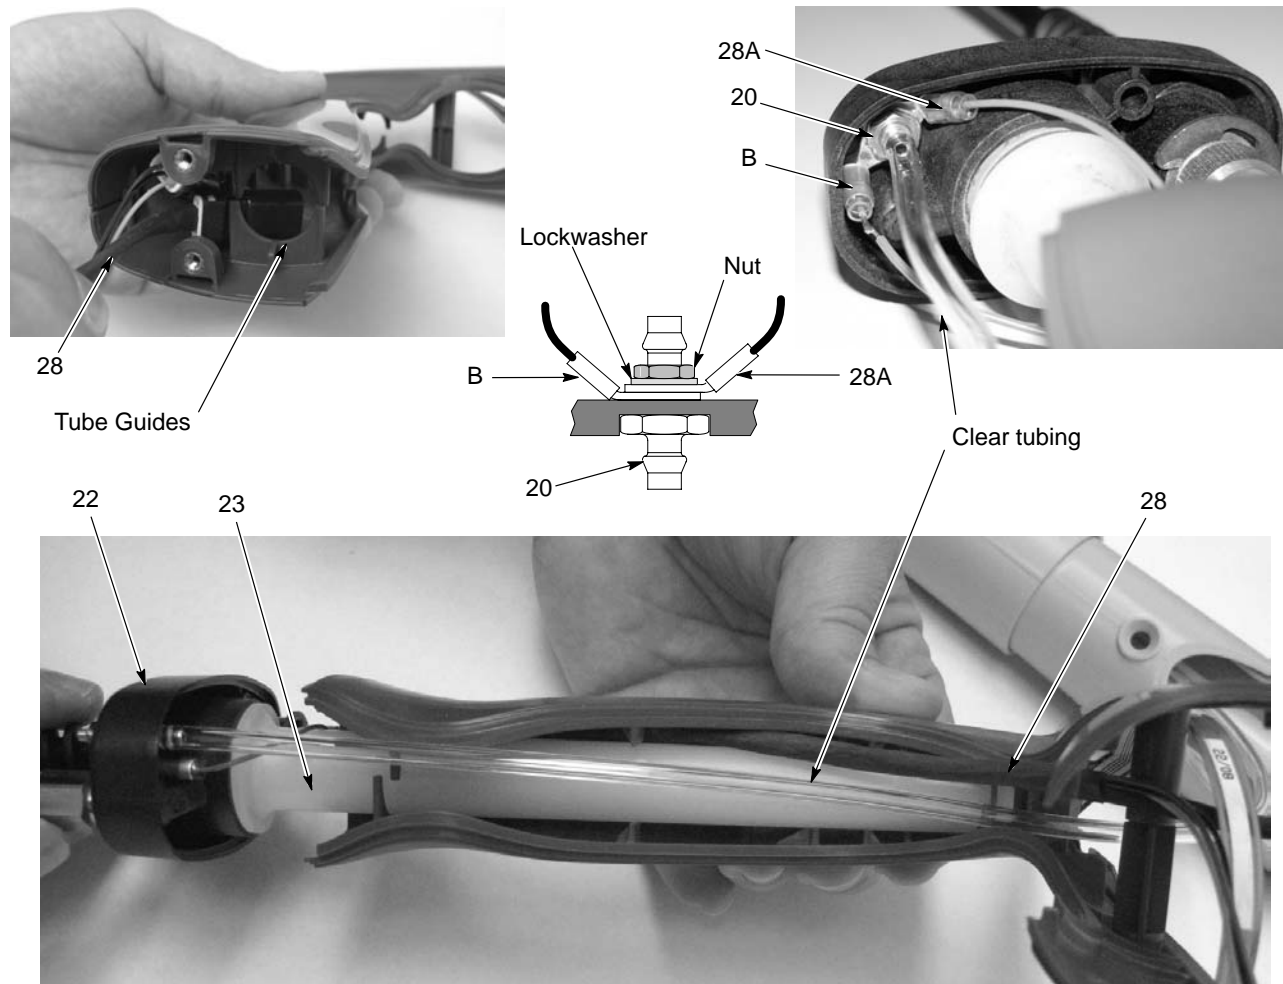

Figure 5-11 Assembling Handles and Base
8. See Figure 5-11. Feed the cable (28) connectors and display module ground wire into the front of the handle, then slide the inlet tube (23) through the tube guides into the handle assembly while routing the cable (28) through the handle as shown. Stop when the base is about 1.5–2 inches from the bottom of the handle assembly.
9. Connect the 4-mm clear tubing (part of filter assembly, item 4) to the barbed fitting (20) in the handle base.